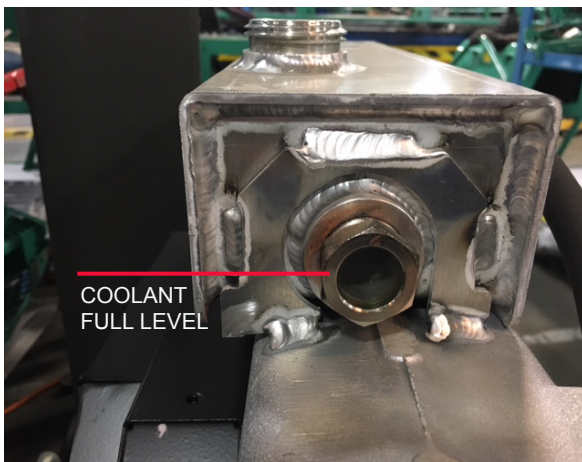

Figure 8. Coolant Level
3. Open the clam shell to access the coolant sight glass (Figure 8).